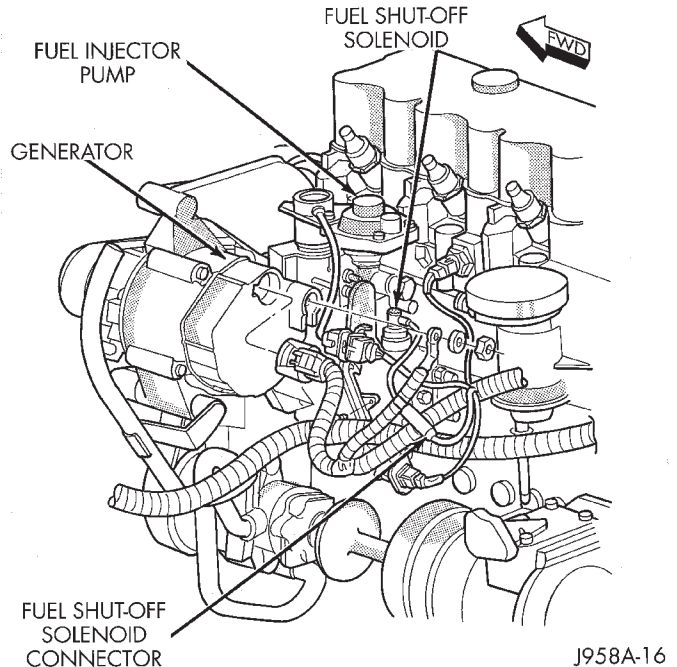

Fig. 2 Fuel Shut Off Solenoid Connector- Diesel Engine
- (2) Fully engage the parking brake.
- (3) If the vehicle is equipped with an automatic transmission, place the gearshift selector lever in the Park position. If the vehicle is equipped with a manual transmission, place the gearshift selector lever in the Neutral position and fully depress the clutch pedal.
- (4) Verify that all lamps and accessories are turned off.
- (5) Unplug the Automatic ShutDown (ASD) relay to prevent a gasoline engine from starting. The ASD relay is located in the Power Distribution Center (PDC). Refer to the PDC label for ASD relay identification and location. To prevent a diesel engine from starting, unplug the fuel shut off solenoid wire harness connector (Fig. 2).
- (6) Rotate and hold the ignition switch in the Start position. Note the cranking voltage and current (amperage) draw.